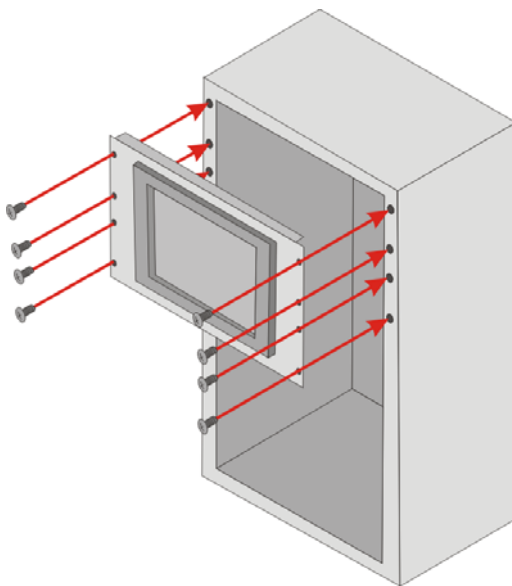

Figure 3-31: Install into a Rack/Cabinet
Step 4: Slide the LCD monitor with the attached rack/cabinet bracket into a rack or cabinet (Figure 3-31).
Step 5: Once the LCD monitor with the attached rack/cabinet bracket has been properly inserted into the rack or cabinet, secure the front of the rack/cabinet bracket to the front of the rack or cabinet (Figure 3-31).